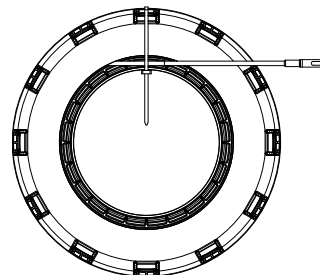

Figure 3
4. Fasten the pull line or wire securely (Figure 2). For additional security, wrap the pulling end with electrical tape (Figure 3).